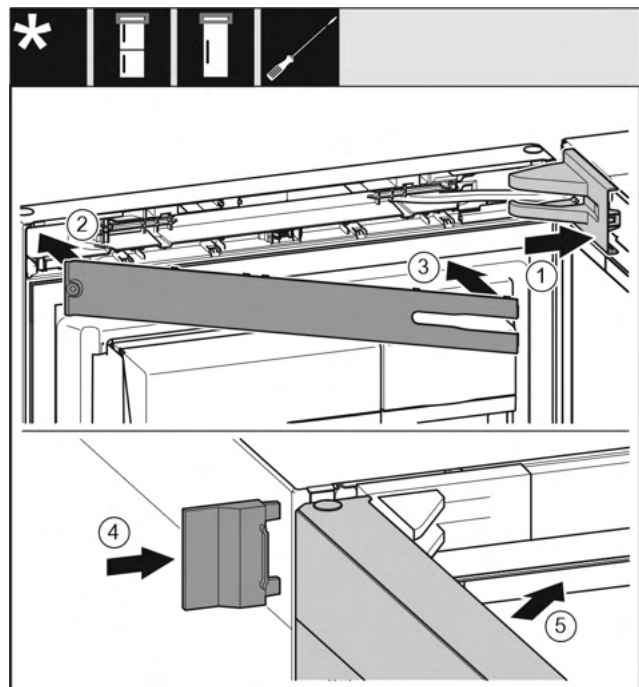

Fig. 50
- ▶ Position the swap bearing block cover Fig. 50 (1) and snap it in. You may need to push it carefully apart.
- ▶ Attach the cover Fig. 50 (2).
- ▶ Swivel in the faceplate Fig. 50 (3) and snap it on.
- ▶ Slide on the outer cover Fig. 50 (4).
► Close the top door *Fig. 50 (5)*.